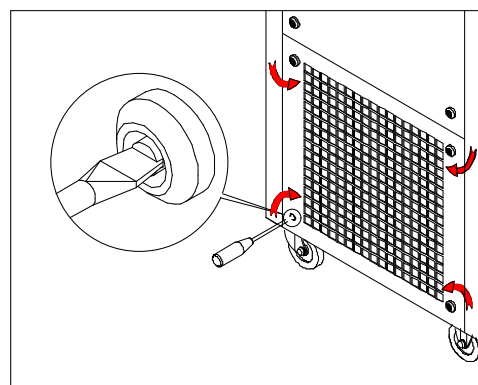

Figure 1-3
- H. Open the back panels(Figure 1-3) .Make sure all the components are not loose during transport .Such as motor ,motor belt , compressor and so on